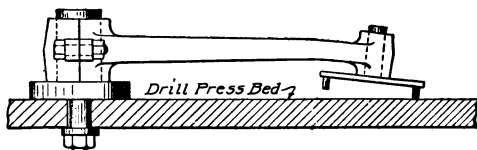

Fig. 56. Method of Testing Connecting Rods with two Mandrels
*Methods of Testing Straightness of Rods.* The first thing to do when a connecting rod is suspected is to take it out and test it. One way of doing this is to attach the lower end to a mandrel, which can be bolted into a drill-press table, as shown in Fig. 56. Before doing this, the small end is also fitted with a mandrel, the lower part of which is of considerable length and has two short vertical pegs. When the big end is bolted down, if both the small pegs on the other end touch, it proves at least that the two holes (big end and small end) are parallel. If one of these pegs is off the table as shown,